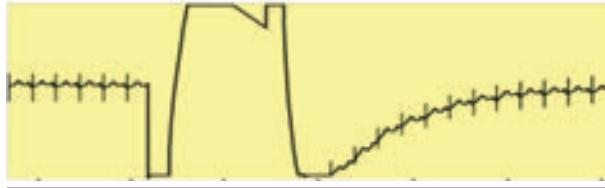

FIGURE 10.7 Unwanted voltage transients in the ECG
- Unwanted voltage transients (Figure 10.7) are due to